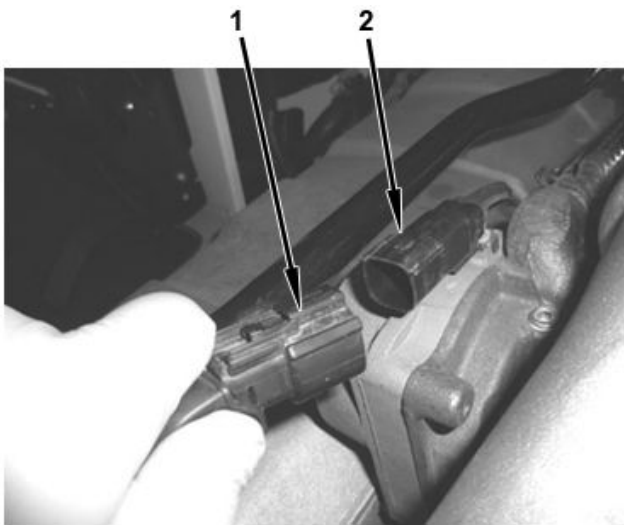

Figure 2. EGR Valve Engine Harness Connector.
4. Disconnect EGR valve engine harness connector (Figure 2, Item 2).